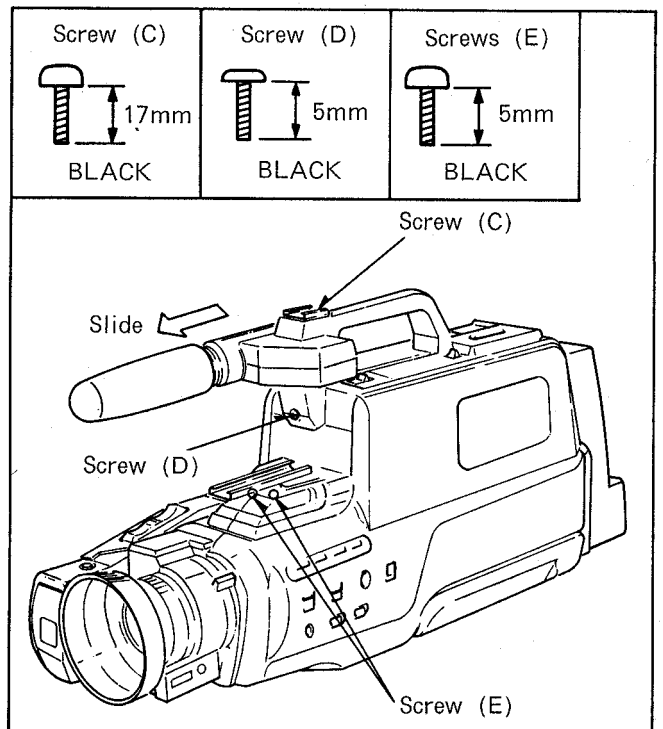

Fig. D3
- (1) Remove 2 Screws(E) shown in Fig.D3.
- (2) Remove 7 Screws(F), 2 Screws(G).
- (3) Lift the side case(R) unit slightly.